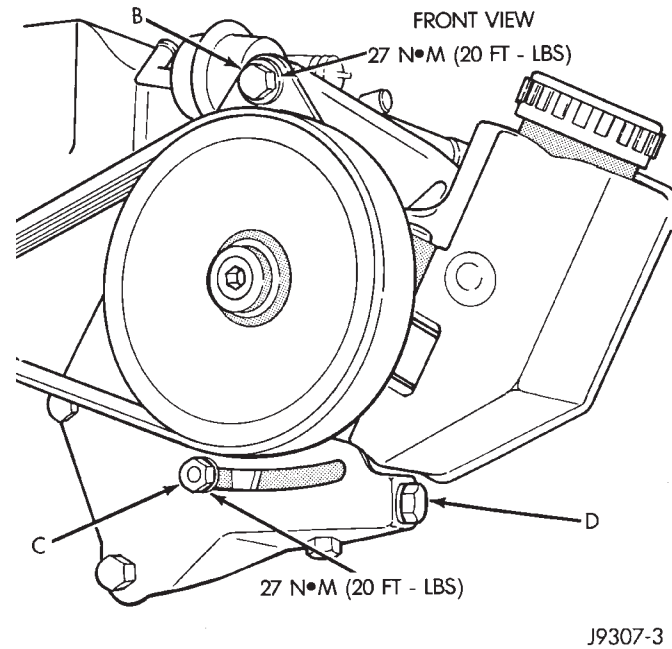

Fig. 9 P.S. Pump Front Mounting Bolt/Locknut—Typical
(2) Loosen upper pump pivot bolt B and lower lock nut C (Fig. 9).